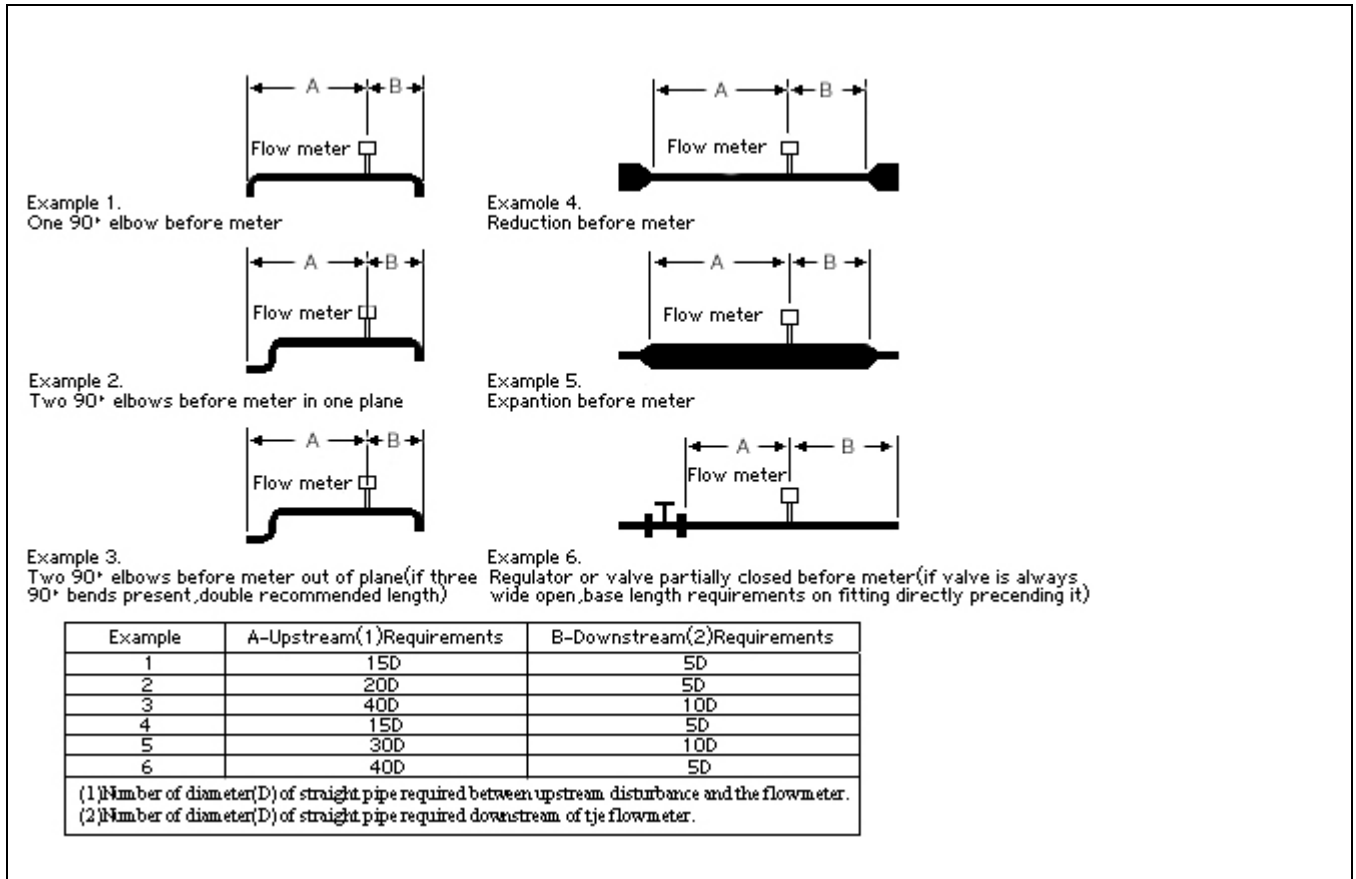

Figure 2-1. Recommended Pipe Length Requirements for Installation
2. Secure the required length of a straight pipe at the upper and lower stream of the sensor. (Figure 2-1 reference)
1. Confirm that the installation site meets the minimum upstream and downstream pipe diameter requirements shown in Figure 2-1.